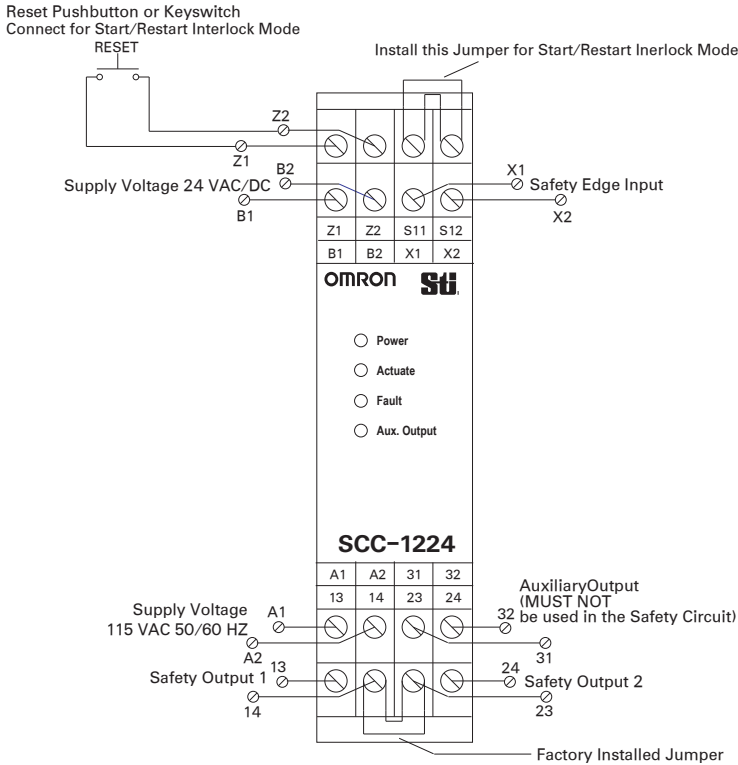

Figure 5-2 Start/Restart Interlock Connection Diagram
There are four LED lamps on the SCC-1224 and SCC-1224ND Safety Edge Controller. Please see *Figure 5-2* for the physical location of each indicator. These LEDs are identified on the controller.
By placing a jumper between terminals S11 and S12, (See *Figure 5-2*) the unit is configured to Start/ Restart Interlock mode. When the unit is configured to the Start/Restart Interlock mode, a reset push button or key-switch must be wired to terminals Z1 and Z2. When power is applied to the controller, the controller will initiate a start up self check, when the self check is complete the relays will remain in the open state until a reset pushbutton or key-switch is closed across terminals Z1 and Z2. When the reset is closed, the contacts will transition to the closed state. Pressing the Safety Edge will cause the safety relays in the controller to transfer to the open state. When pressure is removed from the Safety Edge, the safety relays **will not** transfer back to the closed state until the pushbutton or key-switch is operated (Reset).
With the jumper wire is installed across terminals 14 and 23 (factory default) both safety relays are used in the safety output circuit only one machine primary control element (MPCE) is used. (See *Figure 5-2 Start/Restart Interlock Connection Diagram on page 12*) external fusing (not to exceed 4.0 amps) is required to protect internal safety relay contacts.
- With the jumper wire removed from terminals 14 and 23, each MPCE is individually wired. (See *Figure 5-2 Start/Restart Interlock Connection Diagram on page 12*) external fusing (not to exceed 4.0 amps) is required to protect internal safety relay contacts.